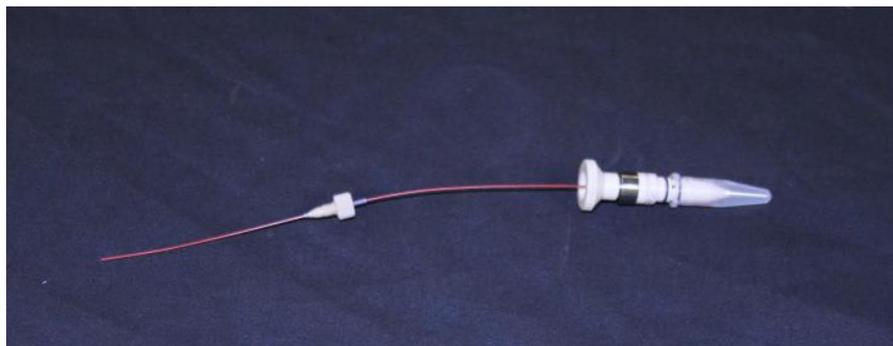
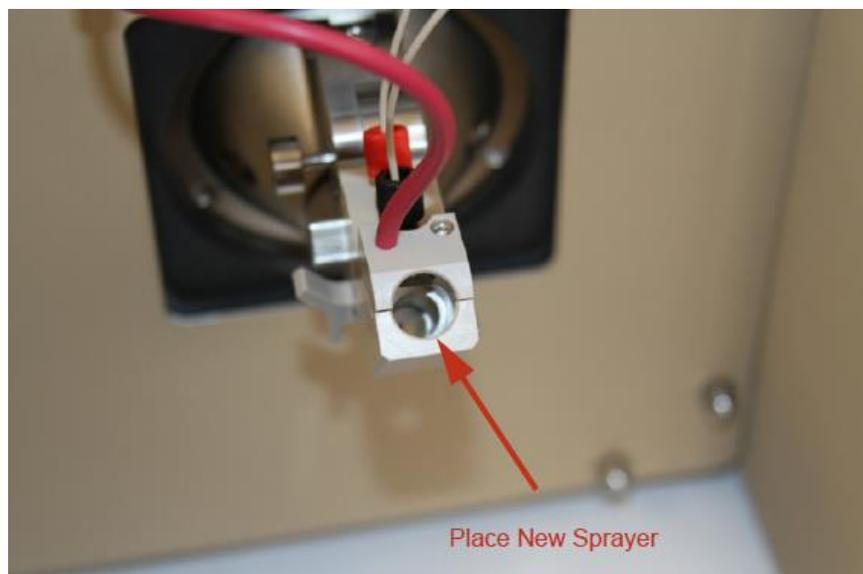

Figure 1.27 – ESI/DESI spray head
Figure 1.28 – ESI/DESI source body
3. Remove the protective cap from the new spray head before inserting into the ESI/DESI source opening (Figure 1.27). Lightly press the new spray head into the ESI/DESI source body. If the new sprayer does not seat correctly, turn it clockwise while pressing (Figure 1.28).